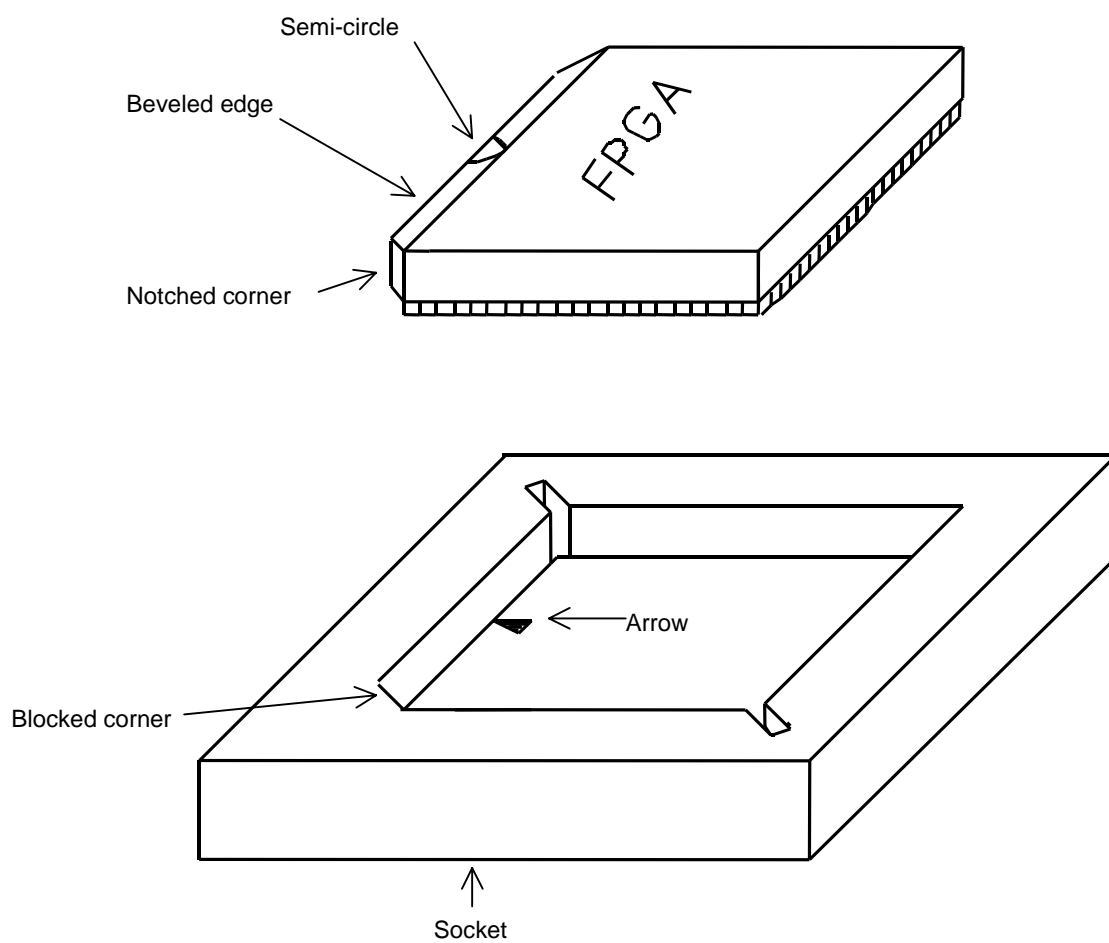

Fig. 5-3 FPGA Installation
3. Make sure FPGA is installed. Otherwise see FPGA installation (Figure 5-3).